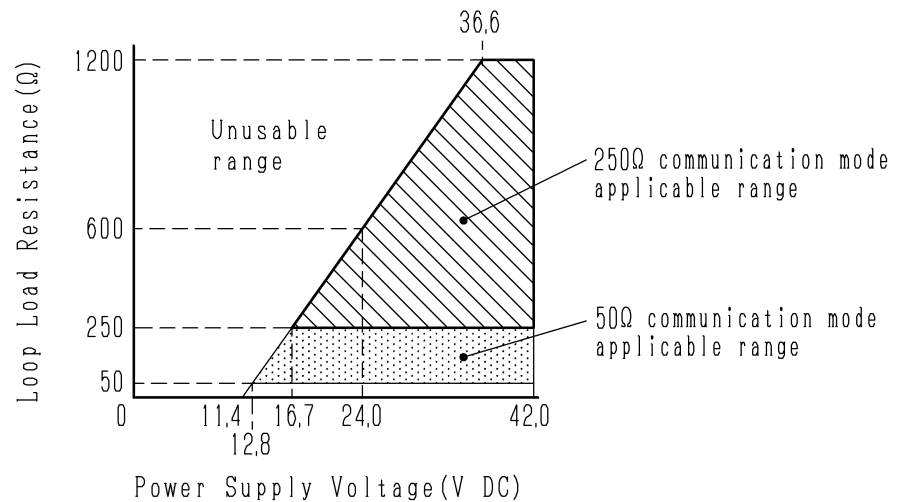

Figure 1 Relationship between Supply Voltage and Load Resistance
Loop load resistance	In 250 Ω communication mode 250 to 600 Ω , with 24V power supply In 50 Ω communication mode 50 to 250 Ω , with 24V power supply A line resistance value is included in either case. Relationship between Supply Voltage and Load Resistance, refer to Figure 1.
1. The total resistance (loop load resistance) of input load resistance of the distributor and receiving instrument on the same loop and line resistance should be within the allowable range indicated in Figure 1.